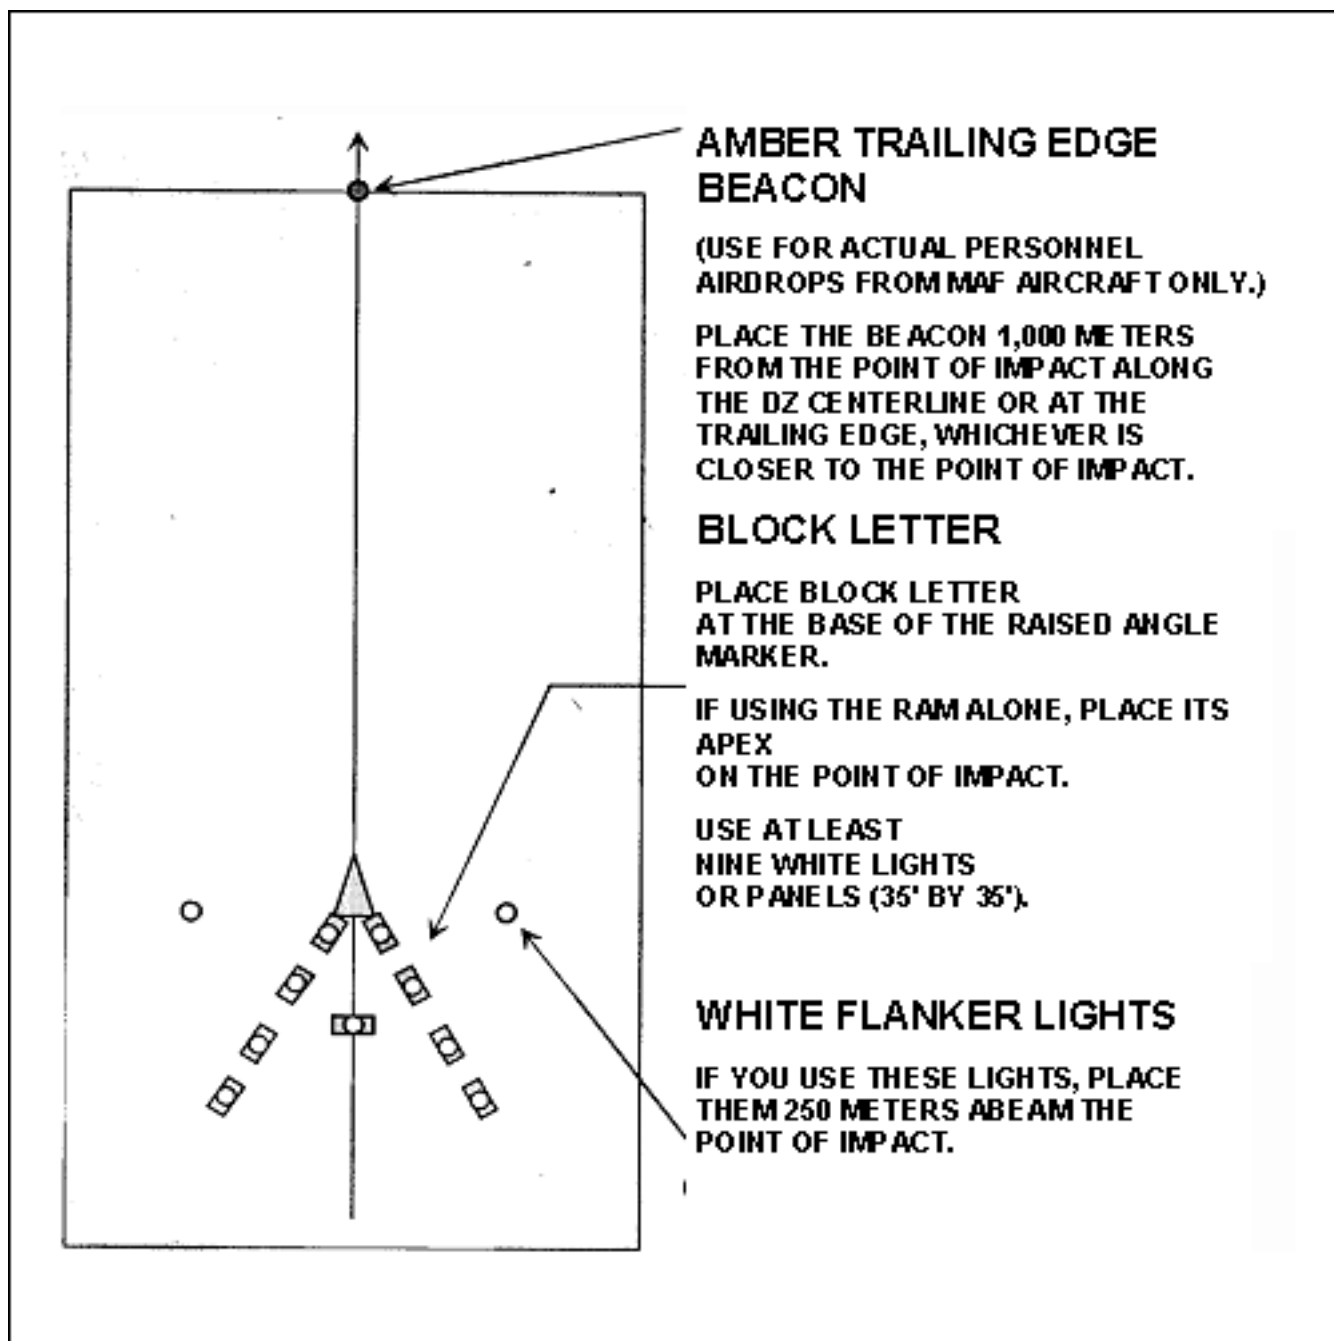

Figure 6-16. Drop zone placement (night).
(2) *Night Operations.* For night operations (Figure 6-16), mark the point of impact with